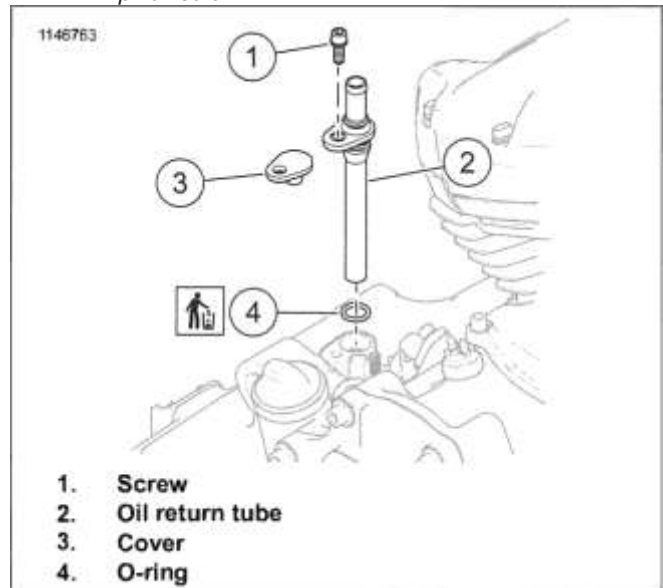

Figure 5-79. Oil Return Tube/Cover
1. See Figure 5-79. Remove oil return tube or cover.
- b. Remove screw (1).
- c. Remove oil return tube (2) or cover (3).
- See Figure 5-79. Install oil return tube or cover.
- Install **new** O-ring (4).
- Install oil return tube (2) or cover (3).
- Install screw (1). Tighten.
7. See Figure 5-79. Connect oil return line to oil return tube (1).